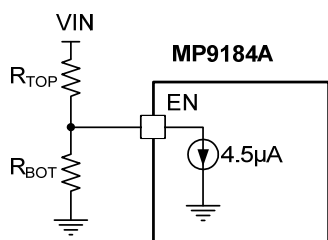

Figure 2: V_{IN} VULO Program
The MP9184A features a programmable UVLO hysteresis. When powering up, EN sinks a 4.5μA current from the upper resistor, R_{TOP} (see Figure 2). VIN must increase in voltage to overcome the current sink. The VIN start-up threshold is determined by Equation (2):